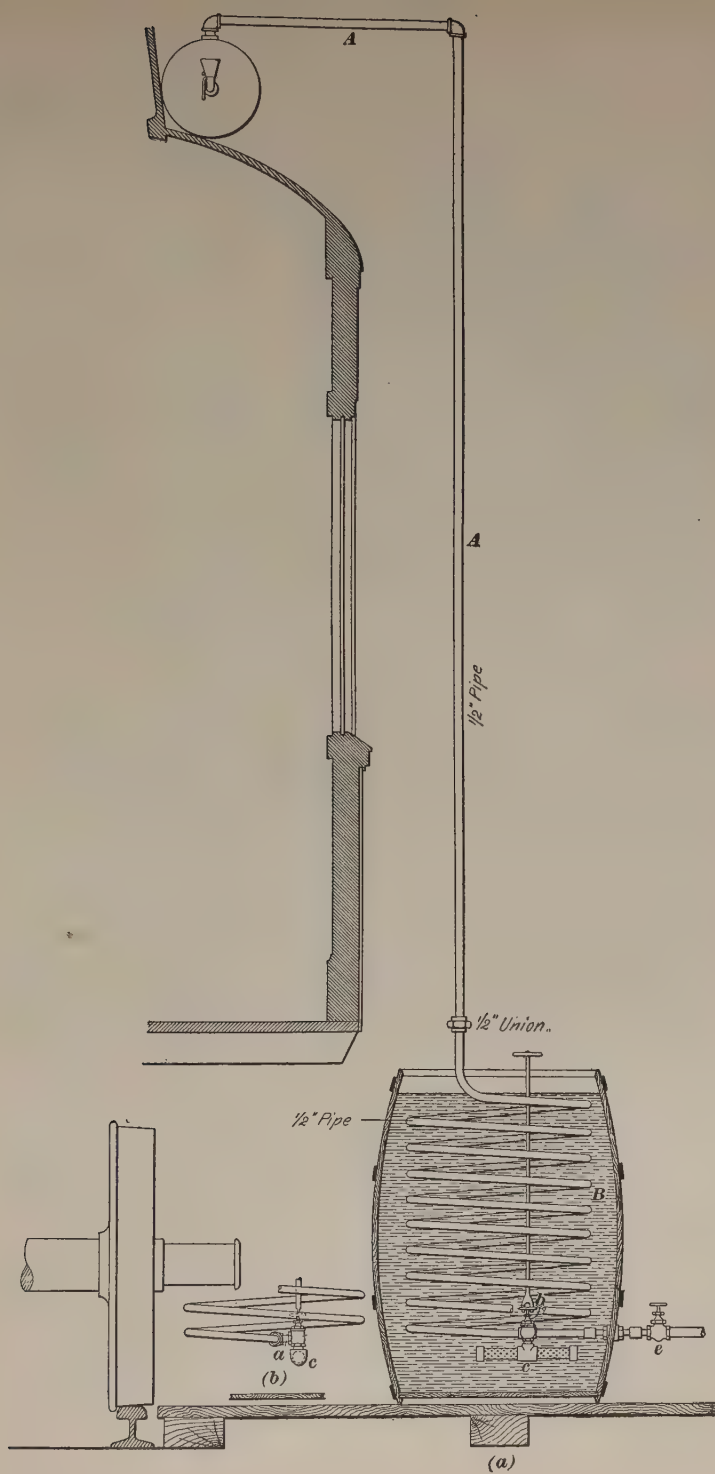

FIG. 5
1. *Filling by Condensation.*—Open all draw-off or drain cocks in the circulation piping, remove the safety valve, but keep the combination cock closed, and run from the topmost tapping in the expansion drum a $\frac{1}{2}$ -inch pipe, as shown at *AA*, Fig. 5. This piping must be made up so as to be absolutely tight. Extend the $\frac{1}{2}$ -inch pipe downwards toward the ground outside the car, and connect it to the upper end